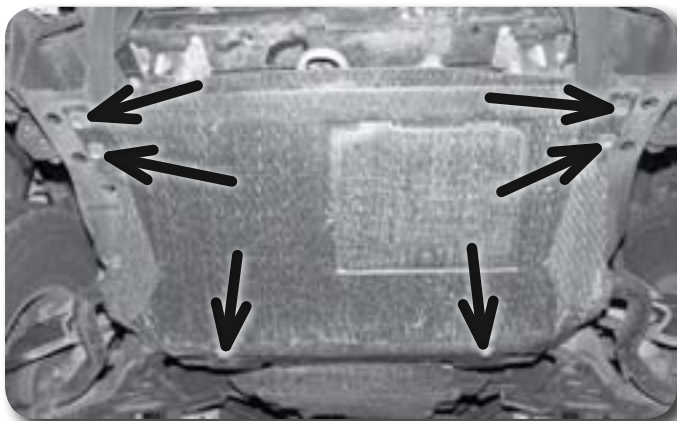

Figure 7
9. Remove the six bolts and the front skid plate from the vehicle **Figure 7**. Save hardware.